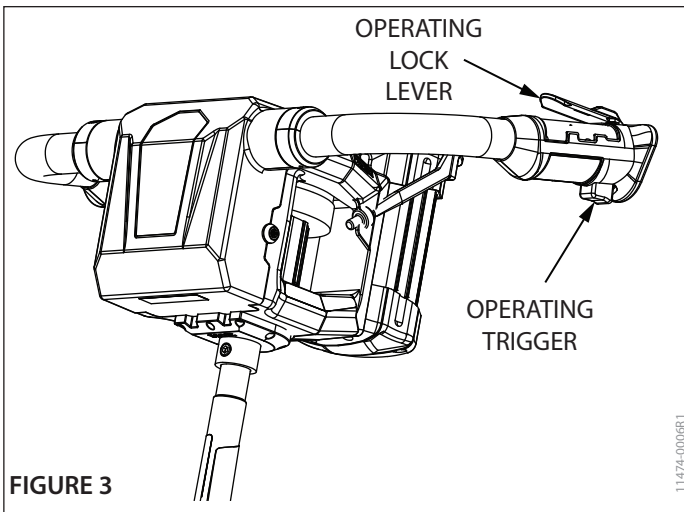

FIGURE 3
2. Depress the operating lock lever, then squeeze the operating trigger. Following a two-second safety delay, the auger will then start drilling. **SEE FIGURE 3**